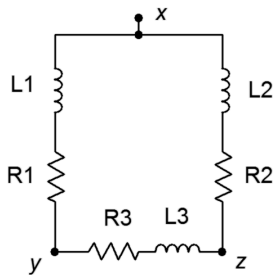

Figure 5.27
53. Determine the equivalent Y (T) network for the circuit of Figure 5.27. $R_1 = R_2 = R_3 = 10\text{ k}\Omega$ and $X_{L1} = X_{L2} = X_{L3} = j10\text{ k}\Omega$.